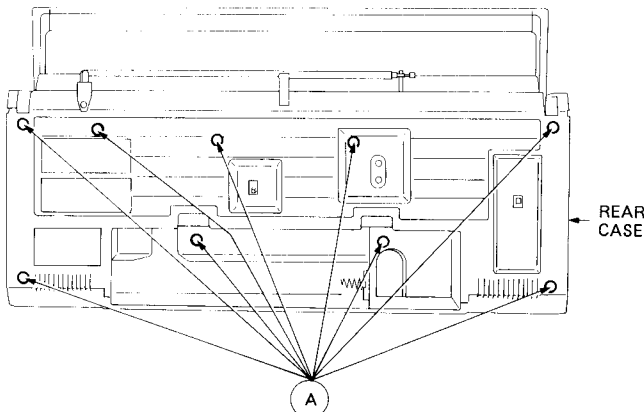

Fig. 2
2. Removing rear case (Fig. 2)